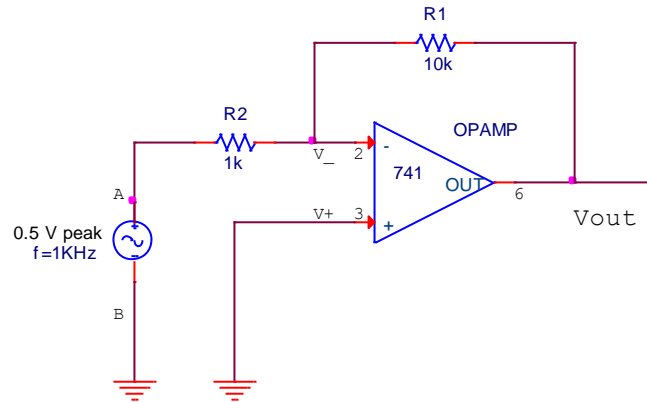

Figure 3 Inverting Amplifier Circuit
We also see that V_{out} is measured relative to the common point between the two power supplies. Although the connections between the integrated circuit and the power supplies are often omitted (See Figure 3) while drawing the circuit of inverting or non-inverting amplifier, but the integrated circuit will not work without them.
Figure 3 shows the basic op-amp circuit, the inverting amplifier.
Refer to rule 2 which states that $V_+ = V_-$ and from Figure 3 it is clear that $V_+ = 0$. Applying rule 2 leads to $V_- = 0$. So the above equation simplifies to
2. Build the inverting amplifier circuit shown in Figure 3.